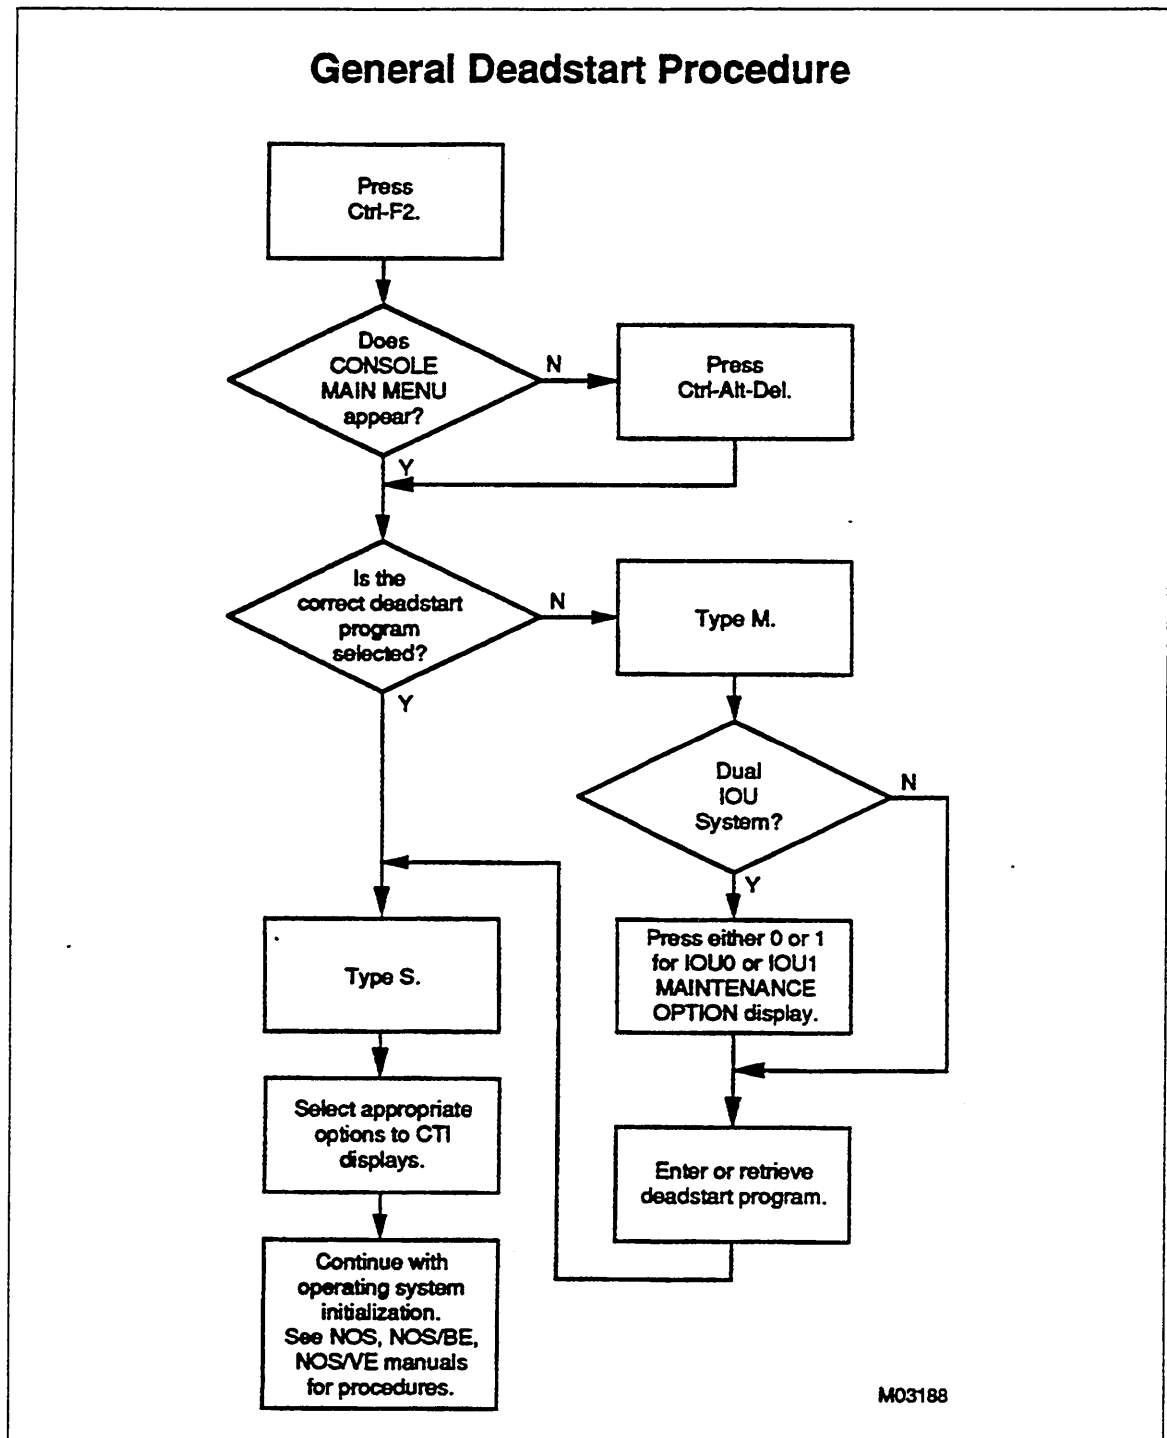

Figure 3-1. General Deadstart Procedure Flowchart
Refer to figure 3-1 for a graphical representation of the general deadstart process. The general deadstart procedure for CYBER 960, 970, and CYBER 994 systems is as follows:
- 1. Complete the following steps to bring up the CONSOLE MAIN MENU (figure 3-1).